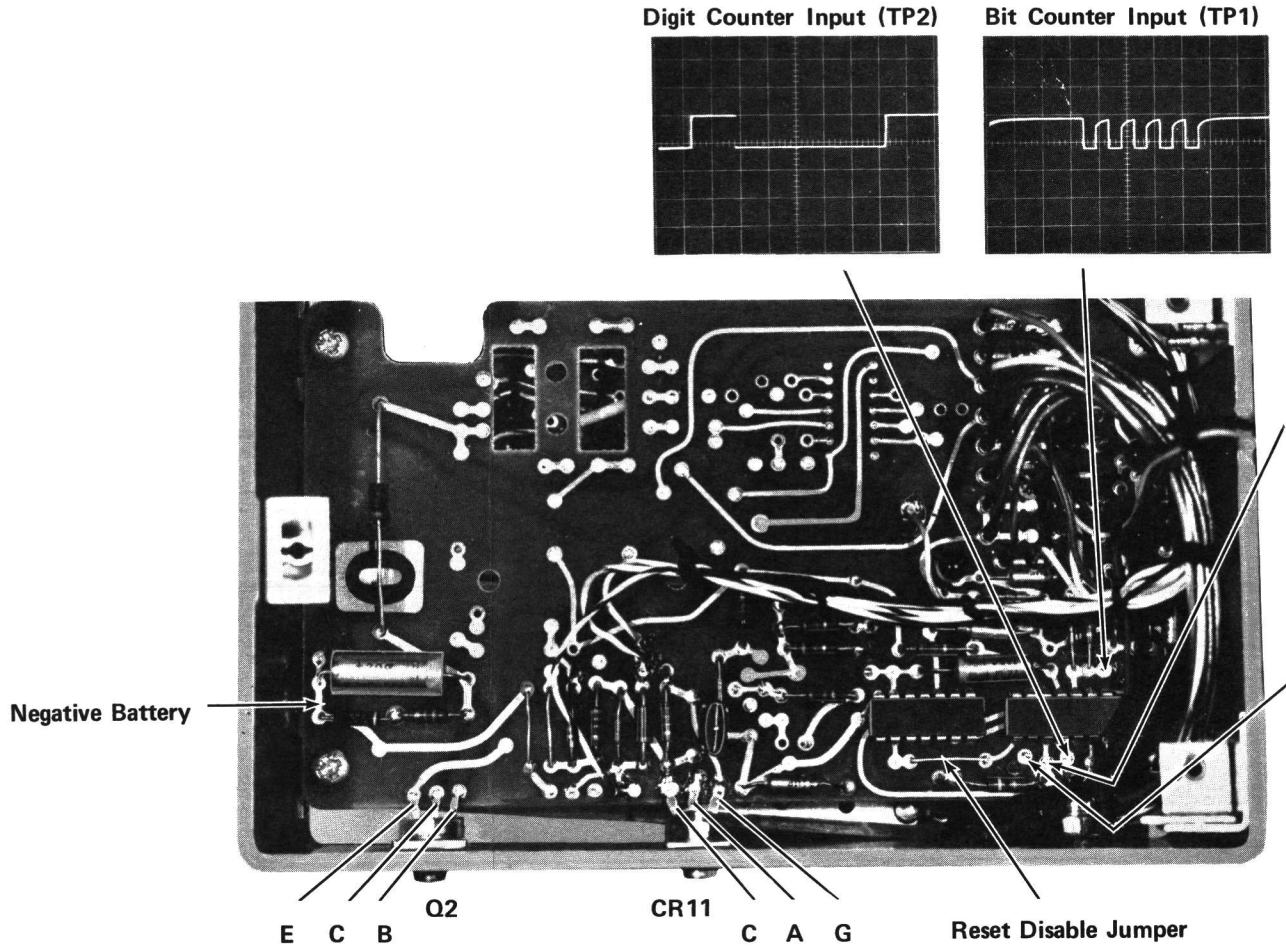

Figure 16 - Pulse Routing Board
- All waveforms shown are with the proper tone applied and the digit 5 dialed. Note: the digit 6 was dialed for the incorrect code reset waveform shown in Figure 16.
- Before starting the procedure, check for +6 volts DC at the emitter of regulator transistor Q2 (see Fig. 16). Then check for +6 volts on the Counter and Tone Receiver Boards (see Figs. 17 and 18).
Decoder doesn't respond to correct code	<ol style="list-style-type: none"> Check the screw placement on the counter board (refer to the Code Setting Procedure as listed in the Table of Contents). At no time should two screws be located in any one screw pad (see Figure 17). Dial a "5" and check the waveforms at TP1 and TP2 (see Fig. 16). If the proper waveforms are not present, refer to Tone Receiver Board checks. If proper waveform is present, continue with Step 3. Dial a correct first digit and keep the tone on after dialing. All of the screw heads in row A should measure approximately +6 volts DC, which indicates that the first digit was counted correctly. Dial a correct second digit and keep the tone on after dialing. All of the screw heads in row B should be at +6 volts, indicating the second digit was counted correctly. Dial a correct third digit and keep the tone on after dialing. All of the screw heads in row C should measure +6 volts, indicating that the third digit was counted correctly. If all of the digits are counted correctly, refer to the Relay Board checks. If the screw heads do not go to +6 volts during the digit checks, continue with Step 4. Connect the reset disable jumper to battery negative to prevent re-setting while dialing (see Fig. 16). Dial the correct first digit again, keeping the tone on after dialing. Check the screw heads in row A again for +6 volts. If all of the screw heads are at +6 volts, check for a positive voltage at the cathode of CR1, CR2 and CR3. If the screw heads or cathodes are not positive, check the flip-flops as instructed in Step 5. If the screw heads and cathodes are positive (indicating a correct count), dial the second and third correct digits to check the screw heads in rows B and C, and the cathode of diodes CR4, CR5, CR6 and CR7, CR8, CR9. If all codes are counted correctly and the cathode of the diodes are positive, this indicates a fault in the reset circuit. Check the correct code, incorrect code reset and reset inhibit waveforms shown in Figure 16, and refer to the circuit analysis section for detailed operation and Truth Table for the reset circuitry.